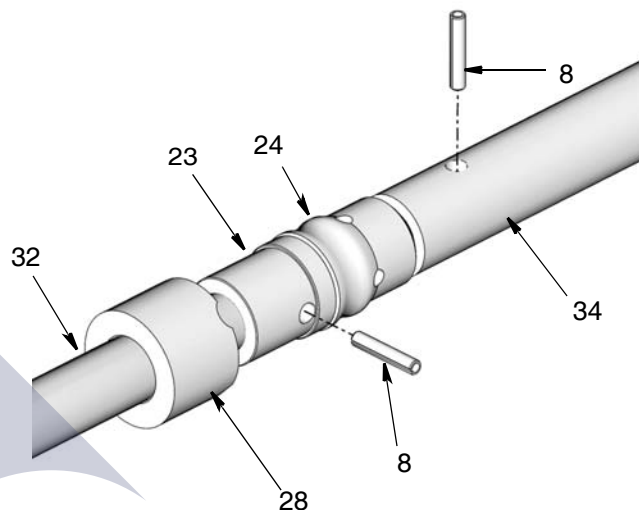

Fig. 7
13. Use a rubber hammer and small punch to drive out pin (8), holding together the priming rod (34) and piston rod (23). Turn the priming rod (34) counter clockwise to loosen and remove it from the piston rod (Fig. 7).